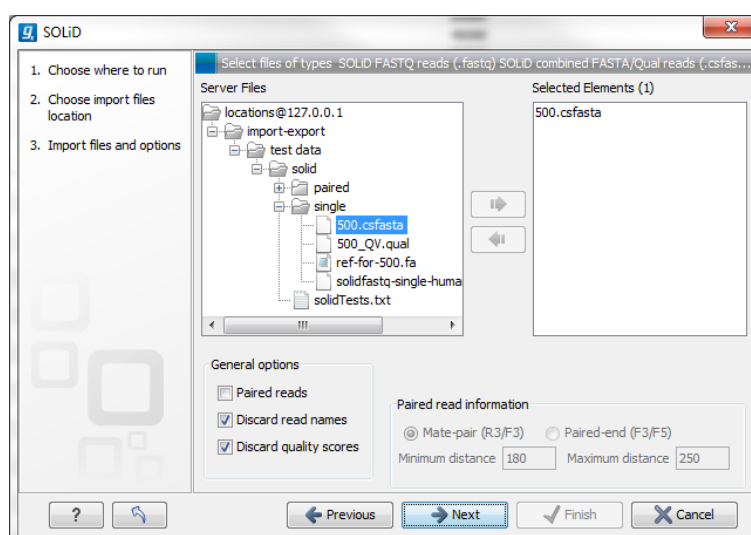

Figure 3.5: Selecting files on server file system.
*On my local disk or a place I have access to* means that the user will be able to select files from the file system of the machine their CLC Workbench is installed on. These files will then be transferred over the network to the server and placed as temporary files for importing. If the user chooses instead the option *On the server or a place the server has access to*, the user is presented with a file browser for the selected parts of the server file system that the administrator has configured as an Import/export location (an example is shown in figure 3.5).